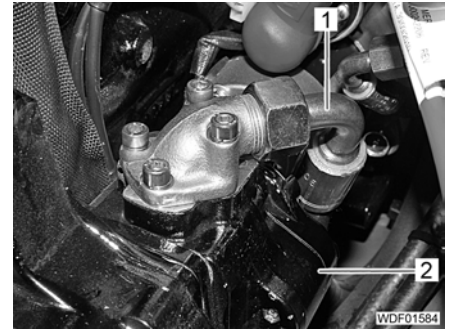

Fig. 178 Top hydraulic line on gear pump for cooling
- Unscrew top hydraulic line (Fig. 178,1) from the gear pump for cooling (Fig. 178,2) and seal.